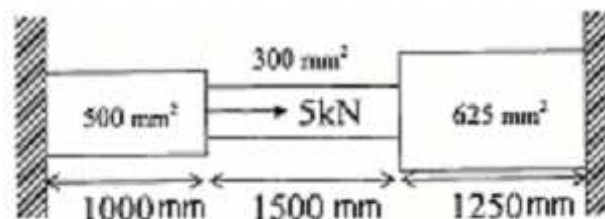

Figure 3
5. find the displacements and reaction forces for the Fig 3 given below. Assume  $E = 2 \times 10^5 \text{ N/mm}^2$ . [16]